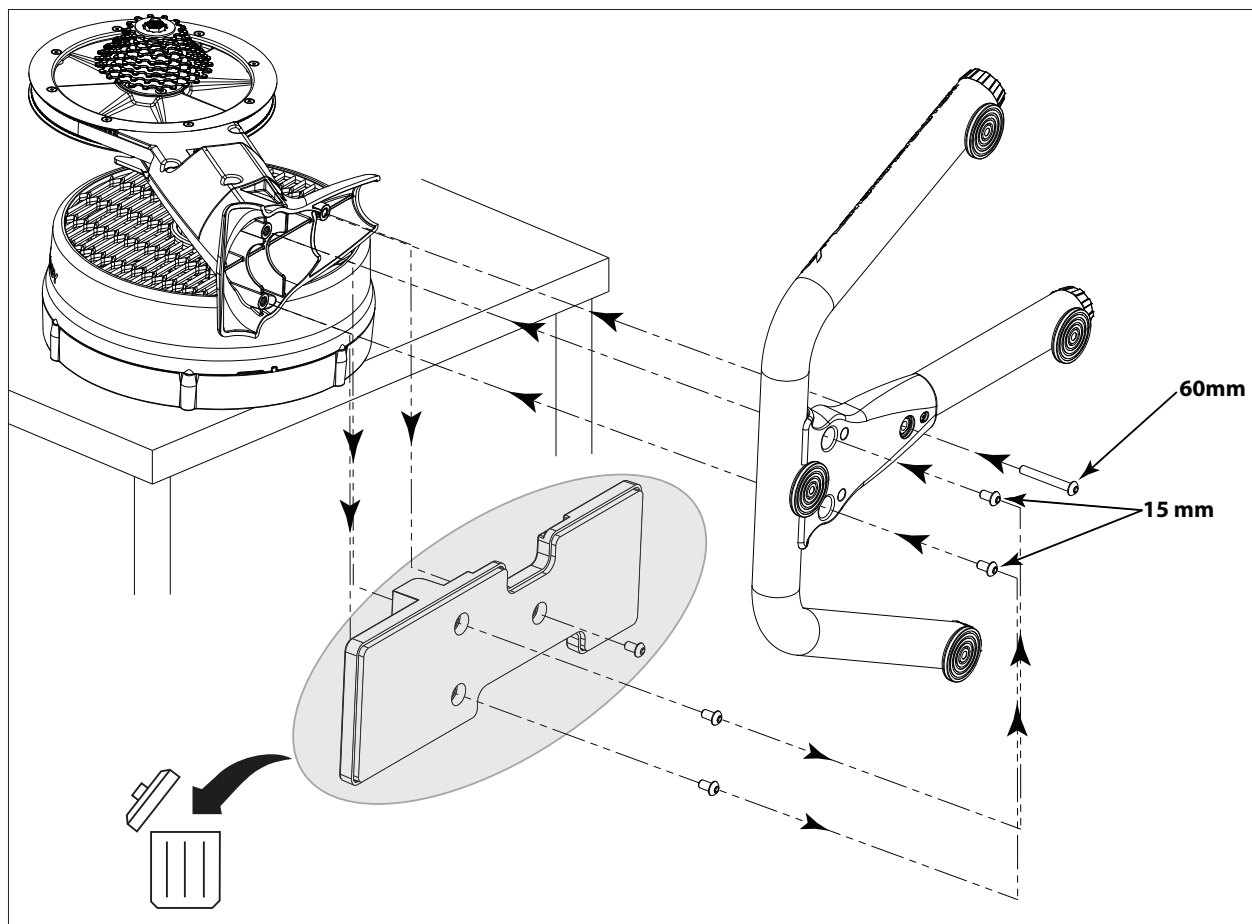

FIGURE 1.2
1. Place the body assembly fan-side down on the edge of a table with the belt wheel away from you and the black shipping base overhanging the edge of the table. (Figure 1.2)
2. Remove the shipping base and set two of the screws aside for use in the next step. Discard the shipping base and the remaining screw. (Figure 1.2)
3. Install the base assembly to the body assembly using the included 60mm screw and two 15mm screws removed from the shipping base. (Figure 1.2)